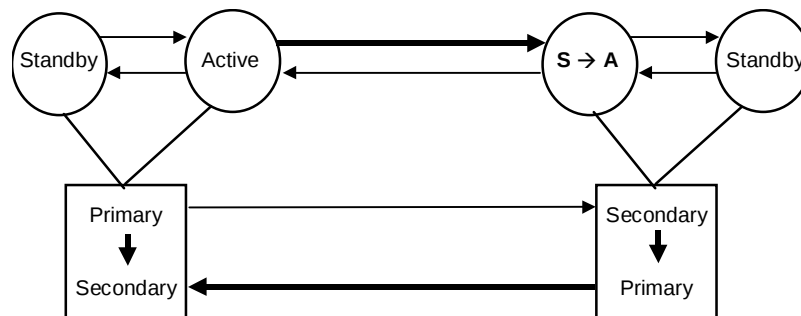

Figure 2-7: Package Transfer on High Availability (HA) Software
In a high availability (HA) environment, a package is a group of applications that are scripted to run on the secondary host in the event of a primary host failure. When using the HA software (e.g., MC/ServiceGuard), the package can be transferred to the standby node as an operation executed by the system administrator (see Figure 2-7). However, if the operation is performed in an environment in which TrueCopy is used, the volume is switched from primary to secondary as if an error has occurred, even though data consistency is assured. When returning the package to the current node, it is necessary to copy the secondary volume data into the primary volume, and this operation can take as much time as the initial copy operation for the pair. In actual operation, no package can be transferred when TrueCopy is used. The secondary package is switched to the primary package, and vice versa, when the primary volume is switched to the secondary volume. Therefore, the primary and secondary TrueCopy volumes should be switched depending on the package state.